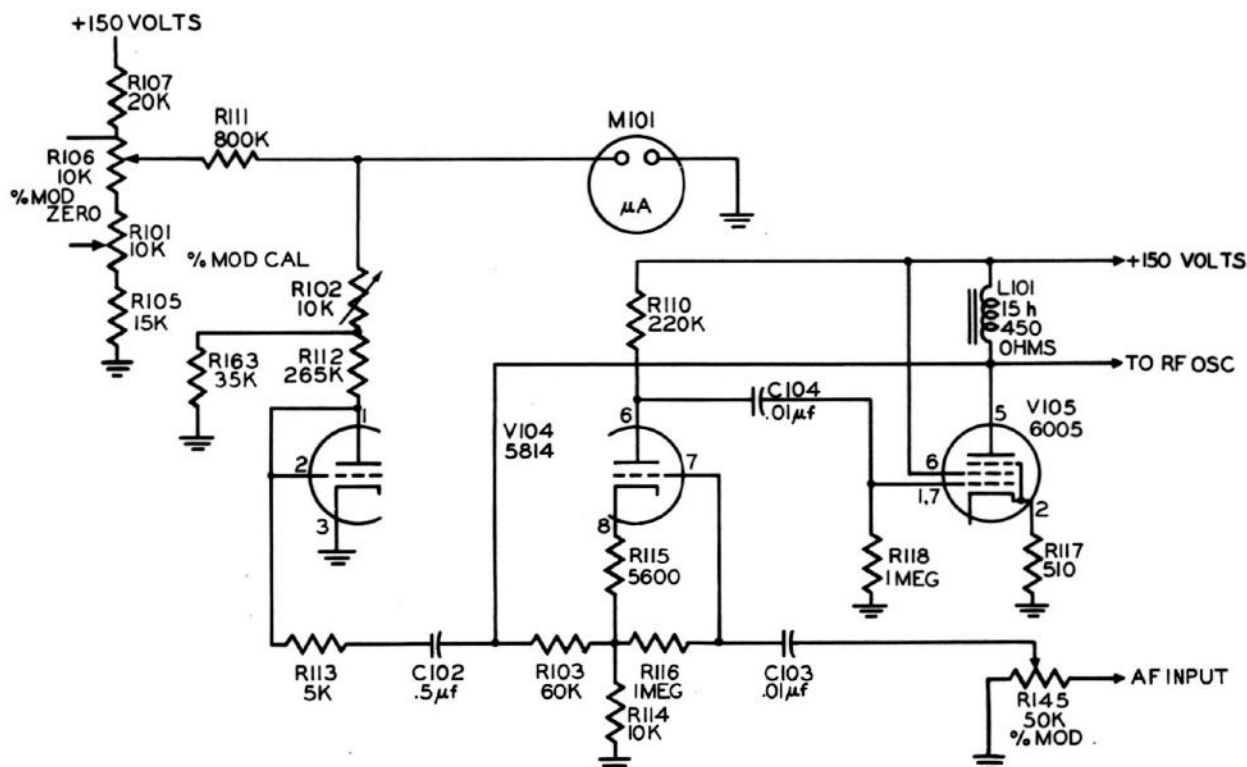

Figure 2-9. Signal Generator SG-45A/URM-26, Functional Schematic Diagram, Modulator and Modulation Monitor
a. MODULATOR: The modulator circuit is a two-stage amplifier consisting of one triode of tube V-104 and tube V-105. A functional schematic diagram is shown in figure 2-9. Audio signal from either the internal oscillator or an external source is applied to grid #7 of tube V-104. The amplified signal developed across reactor L-101 is superimposed on the dc plate potential of the oscillator tube V-110 thereby varying the carrier amplitude at an audio rate.
(1) On positive halves of the audio frequency cycle, capacitor C-102 charges through resistor R-113 and $\frac{1}{2}$ of V-104. On negative half cycles, capacitor